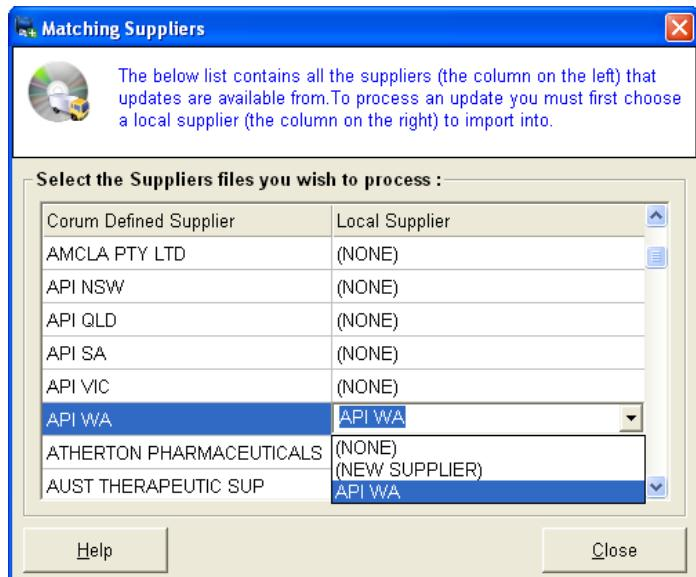

Figure 254
5. After selecting 'Show All' you will then need to link the 'Corum Defined Suppliers' to your Local Suppliers' by clicking in the Local Supplier field (see Figure 254).
- On the left hand side ('Corum Defined Supplier' column) highlight the supplier you wish to process. Once highlighted the right hand side ('Local Supplier') column will display a drop-down list allowing you to select a local supplier (see Figure 254).